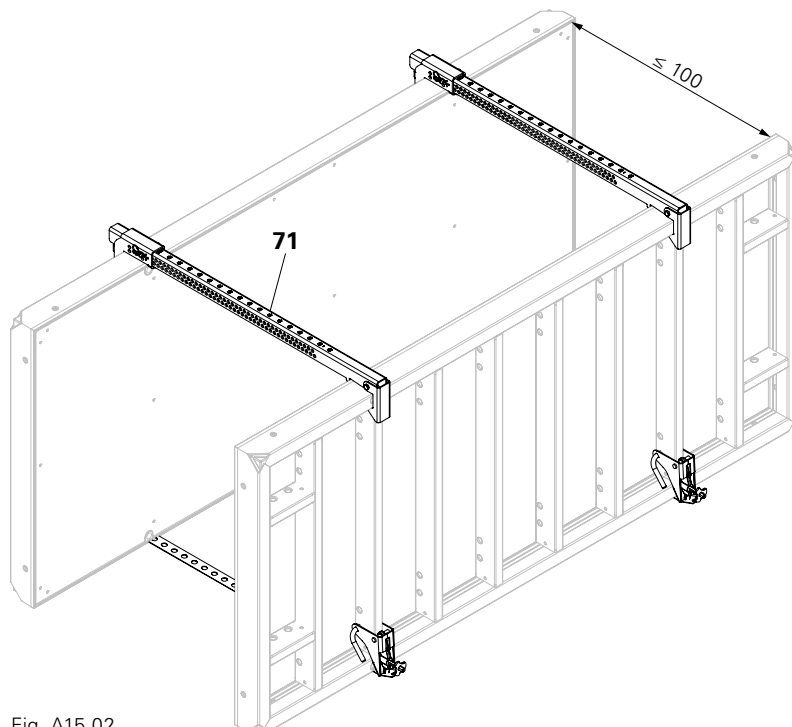

Fig. A15.02
- Wall thickness ≤ 100 cm: MX 15-100 (Fig. A15.02)